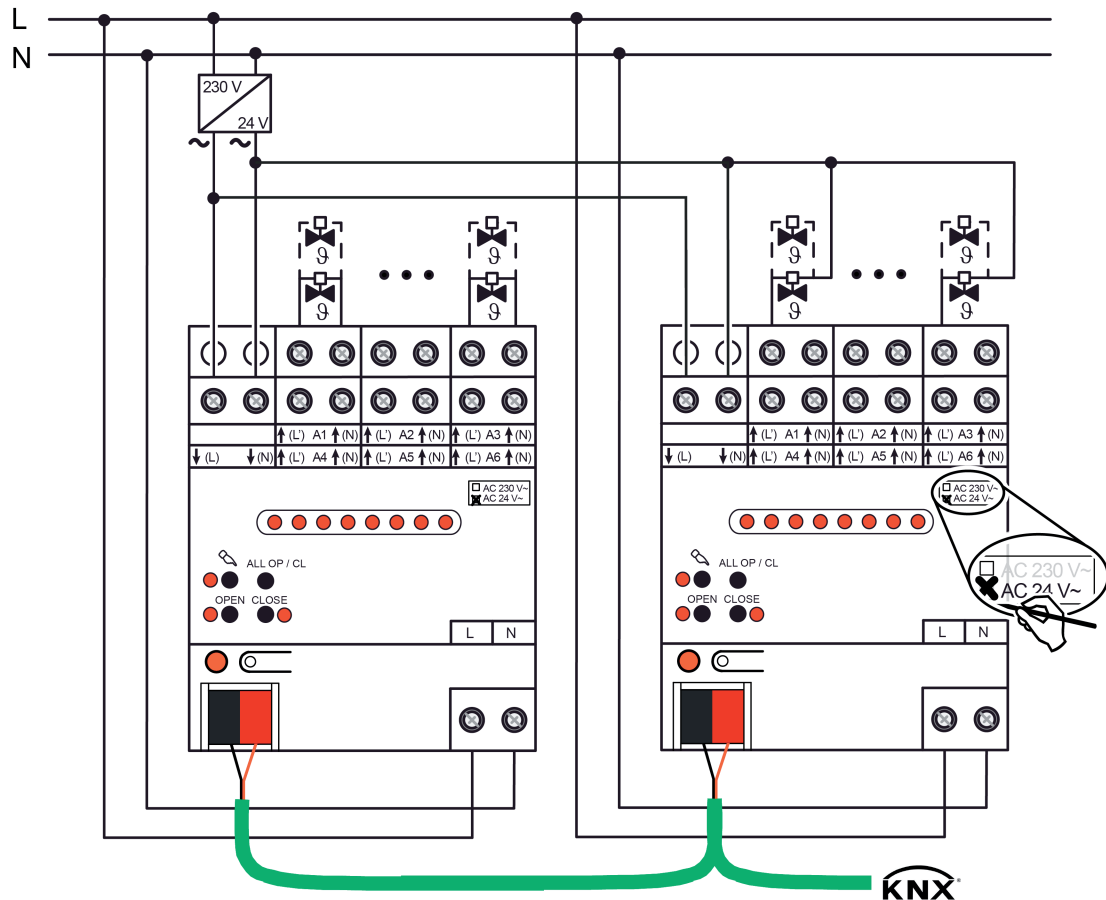

Figure 3: Connection for actuators AC 24 V
- Connect the AC 24 V valve drives according to the connection diagram (figure 3). It is possible to connect the actuators individually and directly with the terminals of the outputs of the heating actuator (left-hand connection example) or, alternatively, using a shared conductor (right-hand connection example).
- Connect the supply for the actuators (AC 24 V) to the terminals ↓(L) and ↓(N) (1). In so doing, use a low voltage AC 24 V from a suitable power supply (transformer, mains power supply).
- Connect mains voltage AC 230 V to the terminals **L N** (5).